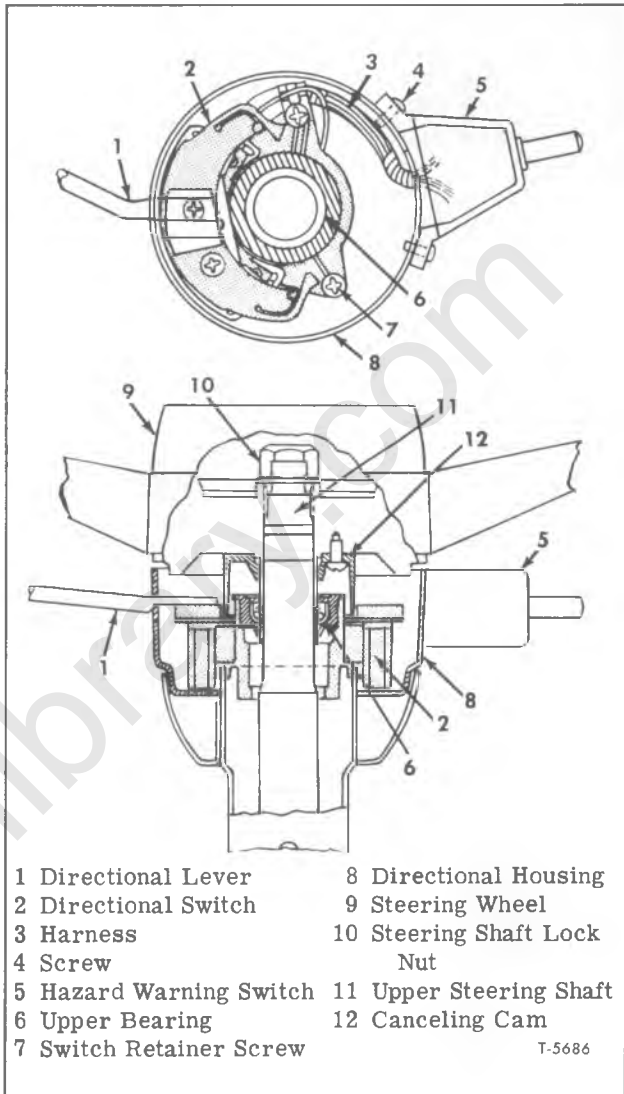
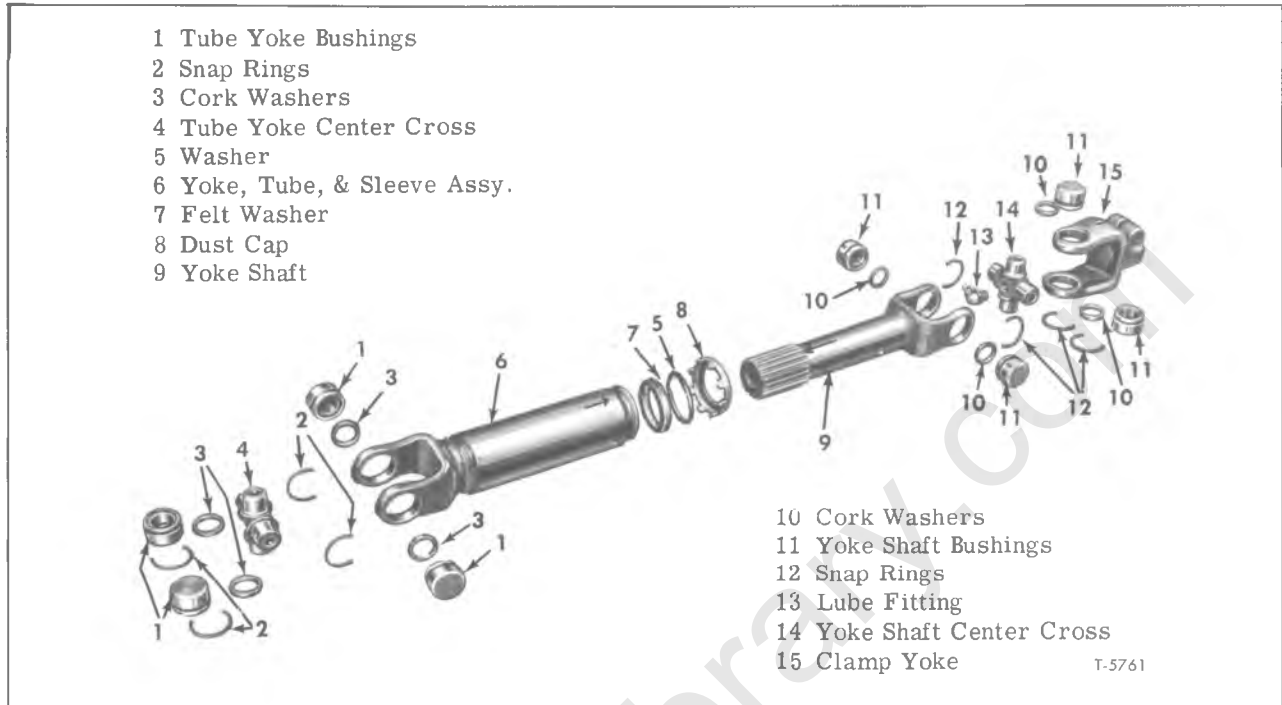

Figure 12—Upper Steering Column (Typical)
Figure 13—Intermediate Shaft (Typical)
1. Remove screws attaching directional signal control lever to control switch assembly and remove lever (1, fig. 12).
2. Remove three screws (7, fig. 12) which attach directional signal control switch assembly (2) to control housing (8). Remove switch and harness (3) from housing.
3. Twist directional control housing (8, fig. 12) counterclockwise and remove from steering column
4. Pull steering shaft (7) from steering column (5), and pry lower bearing (11) from tube, if bearing is worn or defective.
5. Remove bearing inner seal (12), spring seat (13), spring (14) and outer seal assembly (15). Remove stop clamp (16) and bolt, if desired.
6. Referring to figure 13, on vehicles with two-piece shaft, remove snap rings (2) from inside of universal joint. Tap yoke sideways to dislodge bushing (1) of adjoining yoke, repeat operation until all bushings are removed. Remove cork seals (3) from journal and discard.
7. Referring to figure 13, to remove slip yoke (6) from lower shaft assembly (9), bend tabs of dust shield (8) away from retainer groove. Pull shaft (9), felt seal (7), and washer (5) from yoke sleeve (6).
2. Referring to figure 12, install directional and hazard warning control switch and harness (2 and 3) in housing (8) using the three retainer screws (7). Tighten screws securely. Install hazard warning switch (5) to housing. Inspect wiring harness (3) and make certain it is not pinched and is properly positioned. Install directional control lever (1) to bracket on control switch. On columns using clips, secure harness to clips.
3. On vehicles using two-piece steering column, assemble center universal joint (17), bushings, and seals to yokes, and journal using new repair kit. Lubricate joint when assembled.
5. Referring to figure 13, install tabbed dust cap (8), washer (5), and felt seal (7) on lower
1. Remove snap ring (5) from groove of upper steering shaft (2), and pull shaft from steering column.
2. Lift bearing (4) from switch assembly (6). Remove directional control lever from directional switch assembly. Remove the three special screws (7) which retain directional and hazard warning switch (6) to housing (1). At side of steering column, remove four screws and cover (23) which retain harness to column. Lift switch support (3), and harness assembly from column and housing.
3. Remove directional switch housing (1) by turning counterclockwise off steering column.
4. Pull, or pry lower bearing (15) from steering column.
5. Remove stop clamp bolt, and remove stop clamp (17), and spring (16) from upper steering shaft.
6. Referring to figure 13, to separate upper and lower shaft assembly, remove two inner snap rings (2) from bushings (1). Tap yoke sideways to dislodge bushings of adjoining yoke. Repeat operation until all bushings are removed. Remove cork seals (3) from journal (4) and discard.
7. Referring to figure 13, to remove slip yoke (6) from lower shaft assembly (9) bend tabs of dust shield (8) away from retainer groove. Pull shaft (9), with dust shield (8), washer (5) and felt seal (7) from yoke sleeve.
1. Insert bearing (15) into lower end of steering column.
2. Install upper directional and hazard warning housing (1) to steering column. Align slots in base of housing with locking tabs of steering column, twist housing clockwise to lock.
3. Assemble switch support (3), directional and hazard switch (6) and bearing (4) together. Insert unit in housing (1) with hazard warning lever through hole in housing and with wiring harness through cut-out portion of mounting base plate. Secure all parts to housing with the three special screws (7) provided.
4. Align harness as it leaves housing in formed groove of steering column. Place tape over harness at edge of steering column to prevent chafing of wires. Secure cover (23) to column, over harness with four screws, using care not to pinch wires.
6. Referring to figure 13, at lower steering shaft, position tabbed dust cap (8), metal washer (5) and new felt seal (7) on splined yoke shaft (9). Lubricate splines lightly. Align arrows on yoke shaft (9), and slip yoke tube (6). Slide shaft into tube and crimp tabs of dust cap into groove in yoke tube.
7. Referring to figure 13, position center cross (4) of lower shaft yoke in upper shaft yoke. Install all new cork washers (3), yoke bushings (1), and snap rings (2). Tap or press bushings in yokes until snap rings can be installed.
8. Assemble lower clamp yoke (15), to lower shaft yoke, using new cork seal (10), bushing (11), and snap ring (12) if joint was previously disassembled.
9. Slide stop clamp (17), and spring (16) over end of upper shaft (2).
10. Insert upper and lower shaft assembly into lower steering column bearing (15), push shaft upward through column until it passes upper directional housing (1). Place upper column bearing (4) over shaft and in recess of directional switch (6), if not previously done.
11. Slide snap ring (5) over end of steering shaft (2) and push downward until seated in recessed groove of steering shaft.